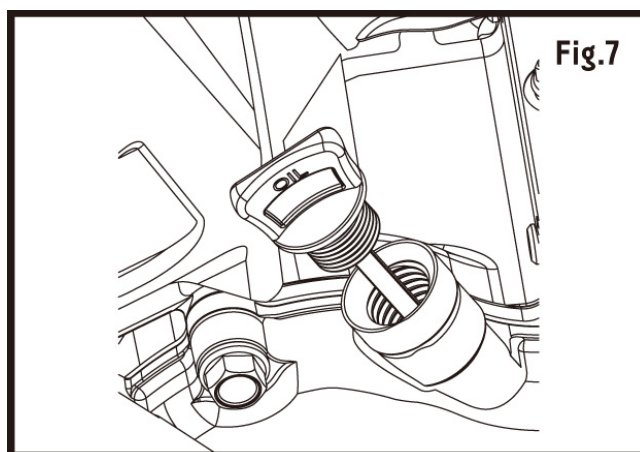

Fig.7
- 2) Insert the dipstick into the oil filler neck, twist to close (see Fig. 7).